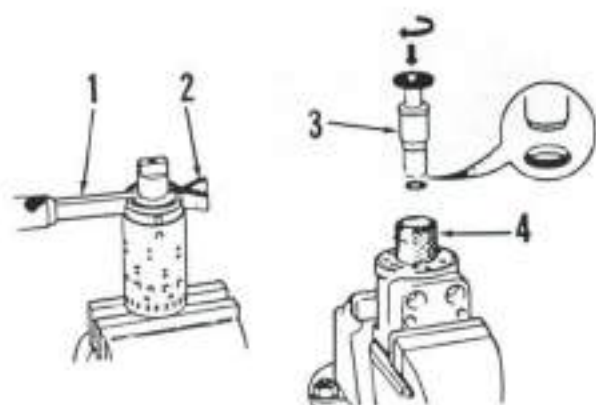

Fig. 57—View showing method of installing centering springs and shaft seal rings using Case special tools.
NOTE: If available, Case special tool (CAS-1239) will aid in installing centering springs. To use, slide tool through spring slots of sleeve and spool, assemble springs and place ends in slot of tool, then compress opposite ends of springs and slide springs into position while pushing tool out. See Fig. 57.
Install a new oil seal (9) in body with seal lip facing inward. Lubricate "O" ring (10) and install it on outside diameter of backup ring (11), then install assembly in valve body bore. If available, Case special tool (CAS-1238) should be used to ensure correct installation of "O" ring and backup ring. To use, install "O" ring and backup ring on end of spindle (3—Fig. 57). Push spindle with seal ring into sleeve of special tool, then insert assembly into valve body until sleeve bottoms. Use a rotating motion while pushing on tool spindle until "O" ring seats in valve body, then withdraw tool.